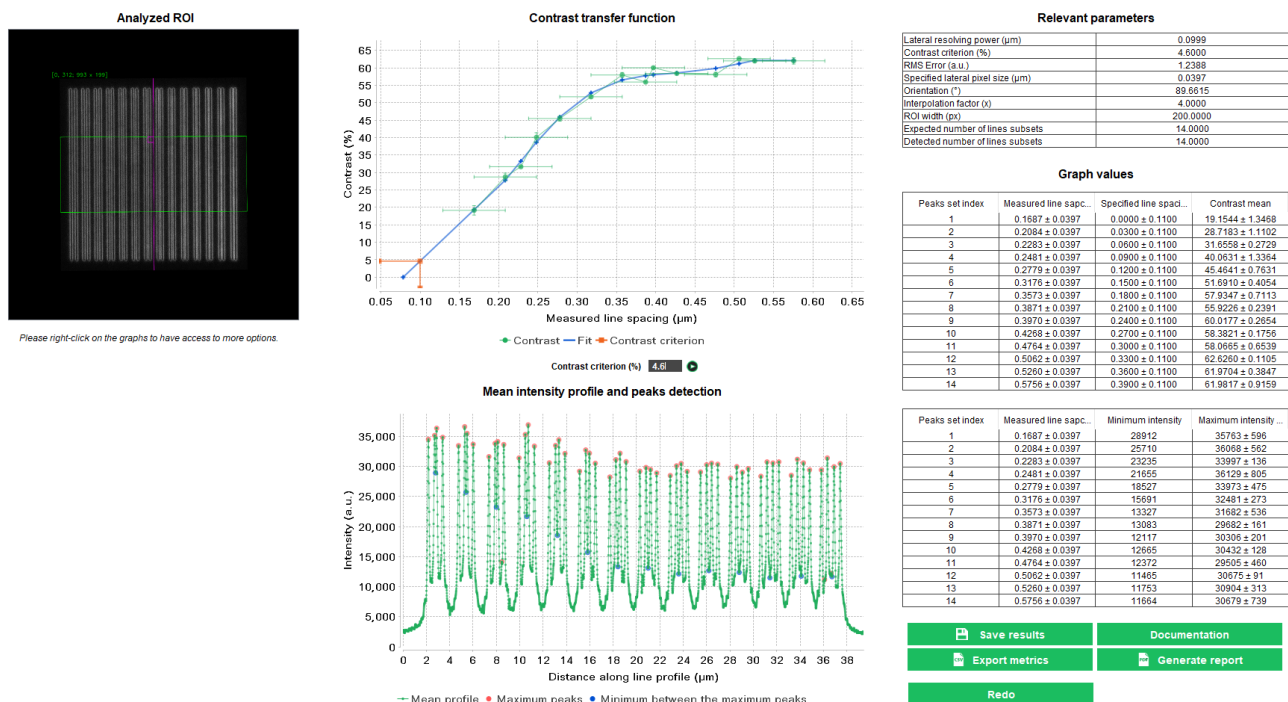

Figure 4: Good detection of the peaks and valleys due to an appropriate ROI width, resulting in a “smooth” contrast transfer function.
- Good detection with the ROI width set at 200 pixels (cf. Figure 4):